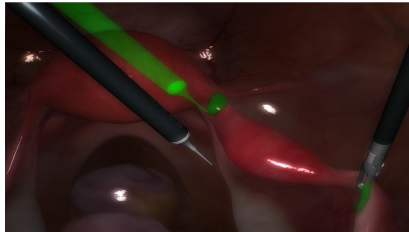

Figure 4.2 Virtual tips. Place of injection
- in (Figure 4.2) a semi-transparent needle shows the correct trajectory.